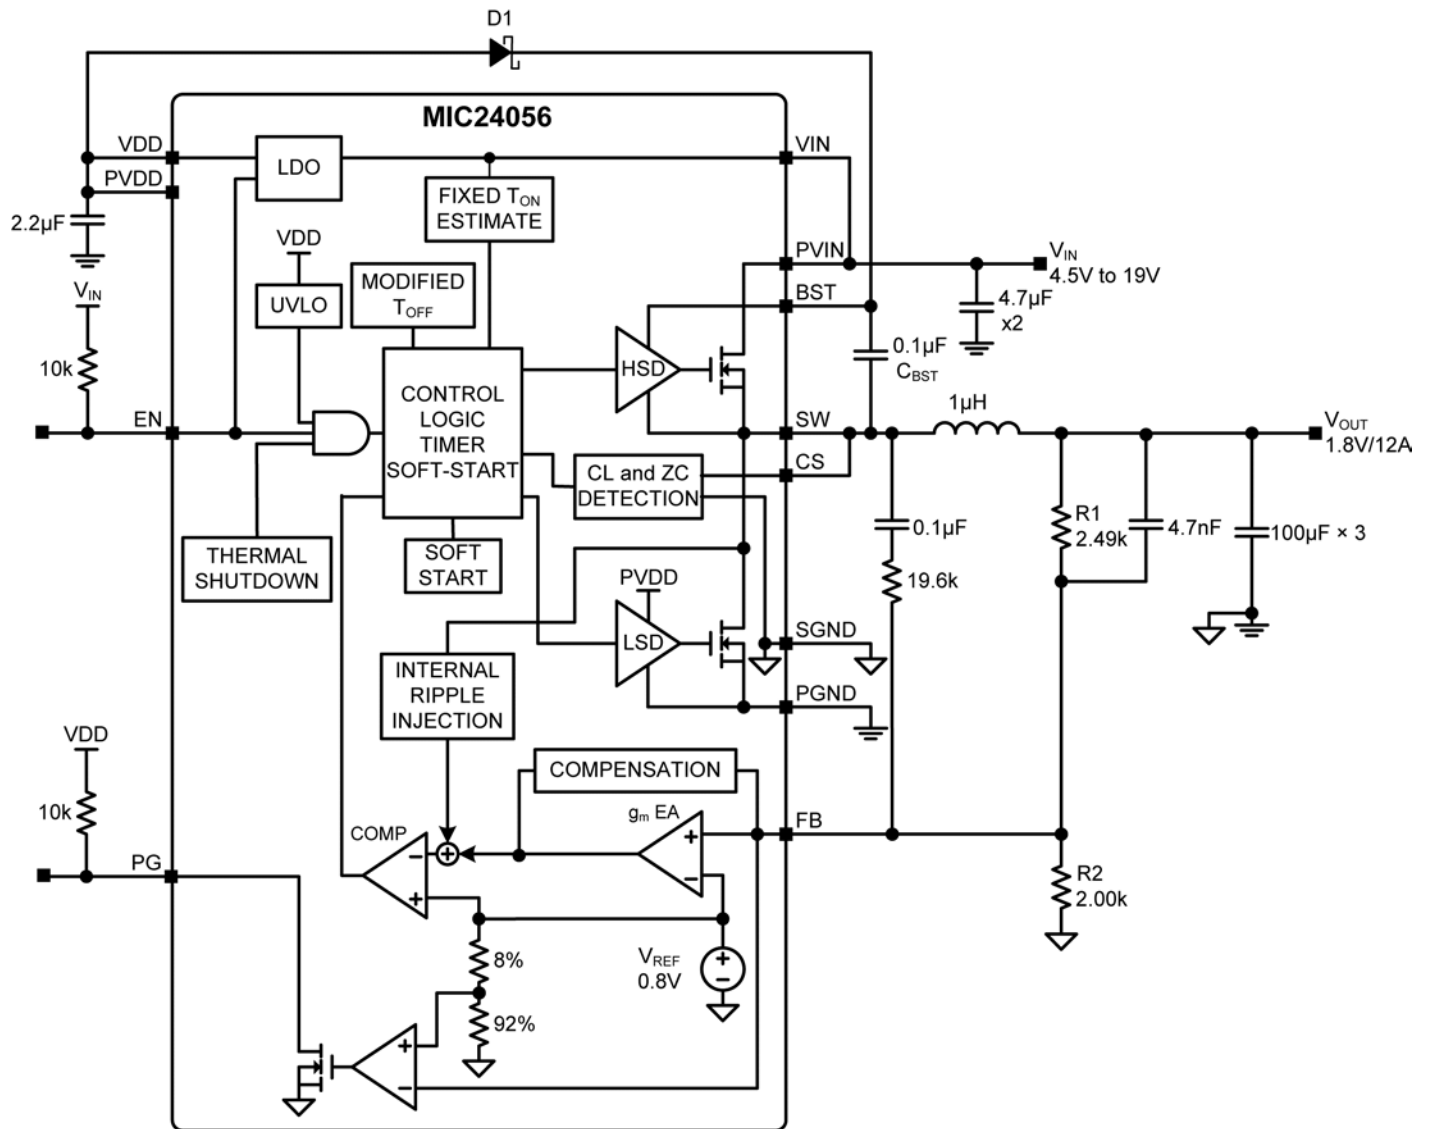

Figure 1. MIC24056 Block Diagram
The MIC24056 is able to operate in either continuous mode or discontinuous mode. The operating mode is determined by the output of the zero cross comparator (ZC) as shown in Figure 1.
The block diagram (Figure 1) shows a bootstrap circuit, consisting of D1 (a Schottky diode is recommended) and C_{BST} . This circuit supplies energy to the high-side drive circuit. Capacitor C_{BST} is charged, while the low-side MOSFET is on, and the voltage on the SW pin is approximately 0V. When the high-side MOSFET driver is turned on, energy from C_{BST} is used to turn the MOSFET on. As the high-side MOSFET turns on, the voltage on the SW pin increases to approximately V_{IN} . Diode D1 is reverse biased and C_{BST} floats high while continuing to keep the high-side MOSFET on. The bias current of the high-side driver is less than 10mA so a 0.1 μ F to 1 μ F is sufficient to hold the gate voltage with minimal droop for the power stroke (high-side switching) cycle, i.e. $\Delta BST = 10\text{mA} \times 1.67\mu\text{s} / 0.1\mu\text{F} = 167\text{mV}$. When the low-side MOSFET is turned back on, C_{BST} is then recharged through D1. A small resistor R_G , which is in series with C_{BST} , can be used to slow down the turn-on time of the high-side N-channel MOSFET.